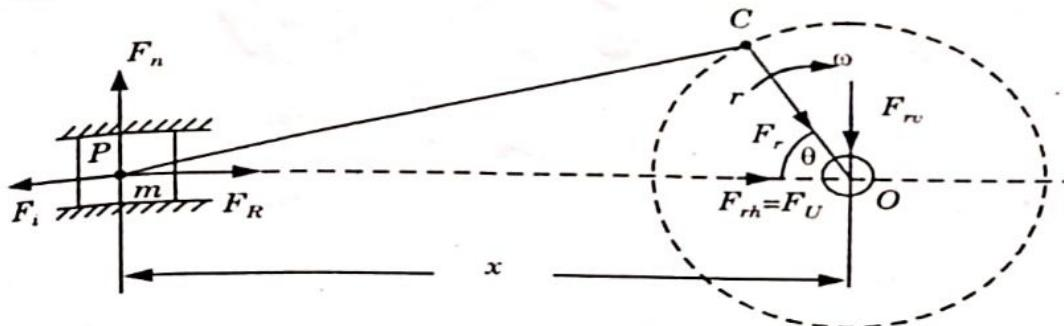

Fig. 4.7.1. Reciprocating engine mechanism.
1. Consider a horizontal reciprocating engine mechanism as shown in Fig. 4.7.1.